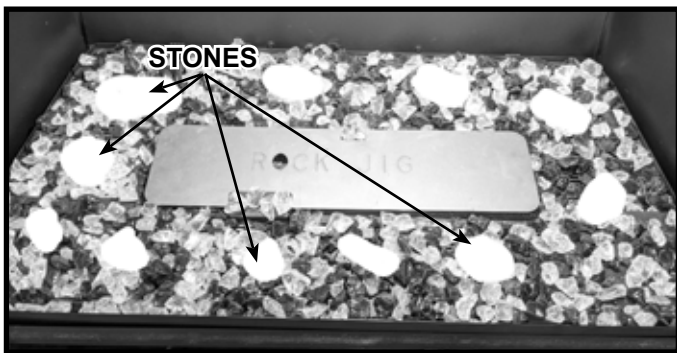

Figure 11.7 Place Rocks
2. Place rocks in a random manner around the rock jig as shown in Figure 11.7.